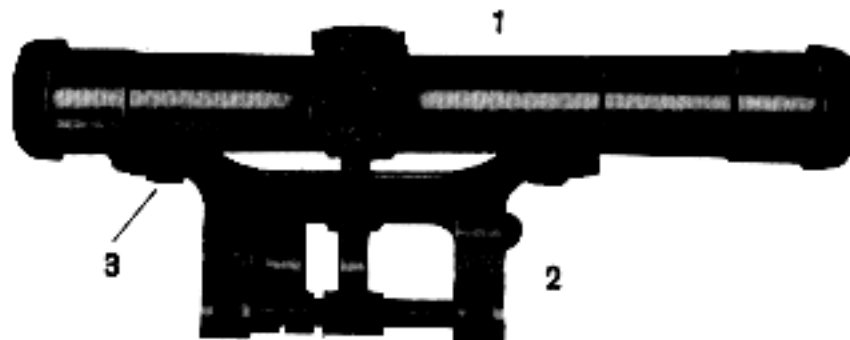

Fig. 28: Telescopic sight G3 with mount
(1) Telescopic sight G3 with mount (Fig. 28)